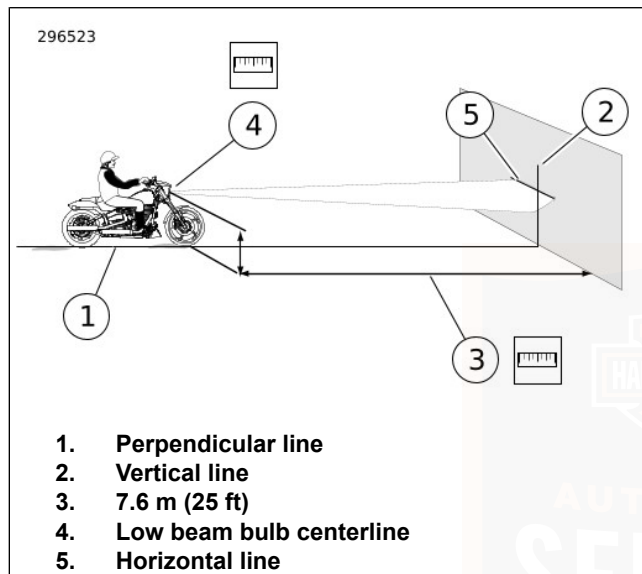

Figure 78. LED Headlamp Alignment
1. See Figure 78. Park the motorcycle on a line (1) perpendicular to the wall.